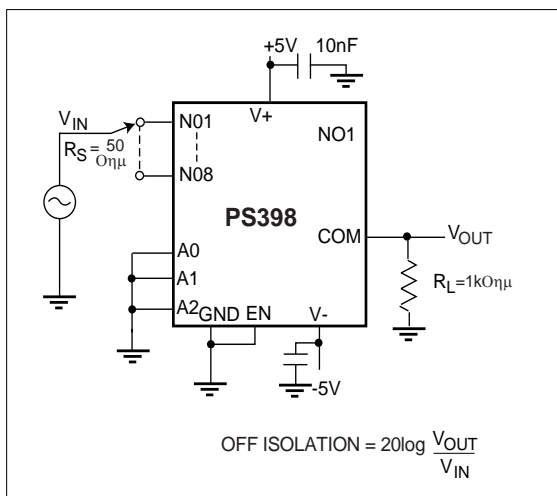

Figure 5. Off Isolation
7. Off Isolation =  $20 \log_{10} V_{COM} / V_{NO}$ . See Figure 5.